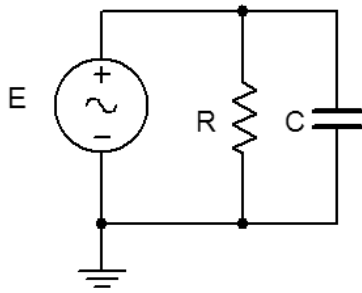

Figure 7.1
1. Using Figure 7.1 with a 10 V p-p 10 kHz source, $R=1\text{ k}\Omega$, and $C=10\text{ nF}$, determine the theoretical capacitive reactance and circuit impedance, and record the results in Table 7.1 (the experimental portion of this table will be filled out in step 6). Using the current divider rule, compute the resistor and capacitor currents and record them in Table 7.2.
2. Build the circuit of Figure 7.1 using $R=1\text{ k}\Omega$, and $C=10\text{ nF}$. A common method to measure current using the oscilloscope is to place a small *current sense resistor* in line with the current of interest. If the resistor is much smaller than the surrounding reactances it will have a minimal effect on the current. Because the voltage and current of the resistor are always in phase with each other, the relative phase of the current in question must be the same as that of the sensing resistor's voltage. Each of the three circuit currents will be measured separately and with respect to the source in order to determine relative phase. To measure the total current, place a $10\text{ }\Omega$ resistor between ground and the bottom connection of the parallel components. Set the generator to a 10 V p-p sine wave at 10 kHz. Make sure that the *Bandwidth Limit* of the oscilloscope is engaged for both channels. This will reduce the signal noise and make for more accurate readings. Also, consider using waveform averaging, particularly to clean up signals derived via the *Math* function.
3. In general, how would the phasor diagram of Figure 7.1 change if the frequency was raised?